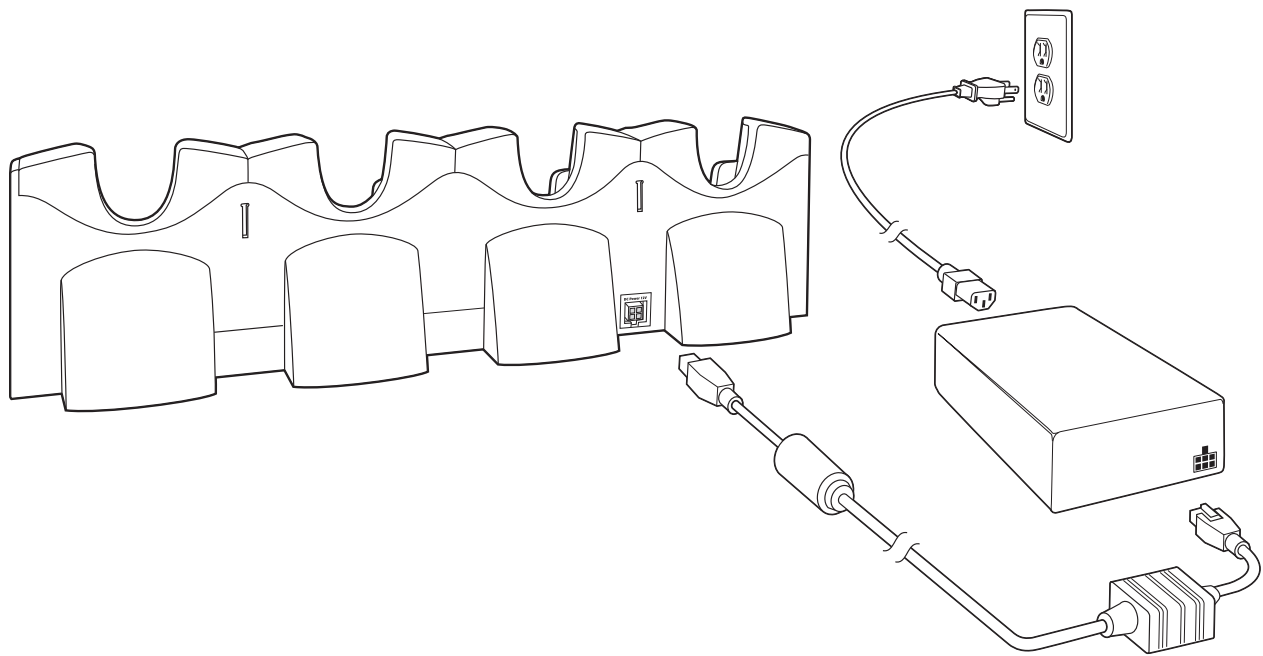

Figure 2-12 Four Slot Charge Only Cradle Connection
5. Connect power (see Figure 2-12 on page 2-14). The power supply should be located in the power supply well.